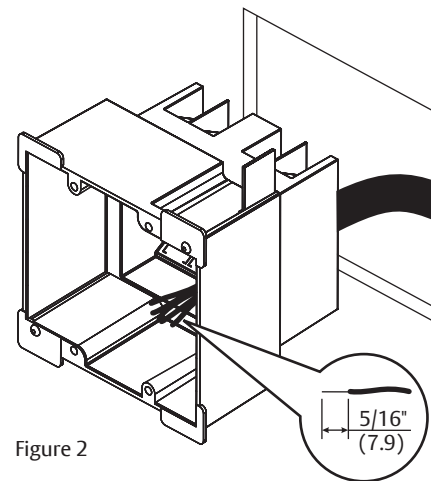

Figure 2
2. If agency with jurisdiction requires, secure wire conduit (supplied by others) to back of housing and feed wires through. (Fig 2)
3. Strip sheath from each wire end exposing 5/16" (7.9) to prepare wires for connection. (Fig 2)